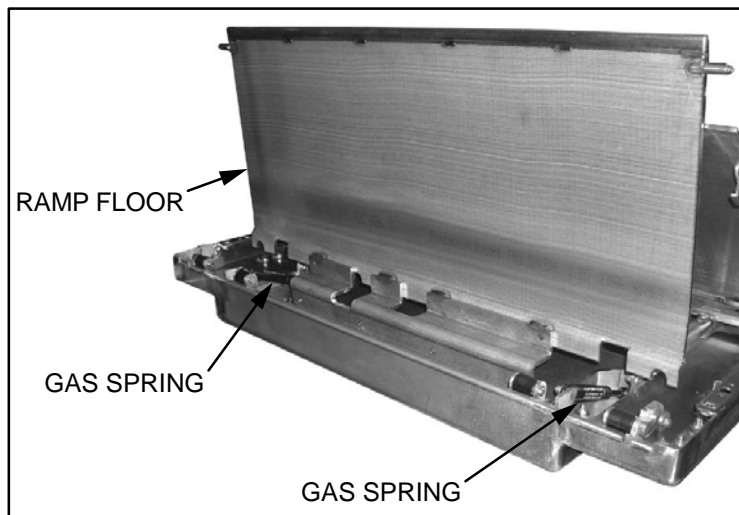

FIGURE 4-6: FRONT ENCLOSURE ACCESS
- c. Refer to **Figure 4-6**. Lift ramp floor to gain access to front enclosure.